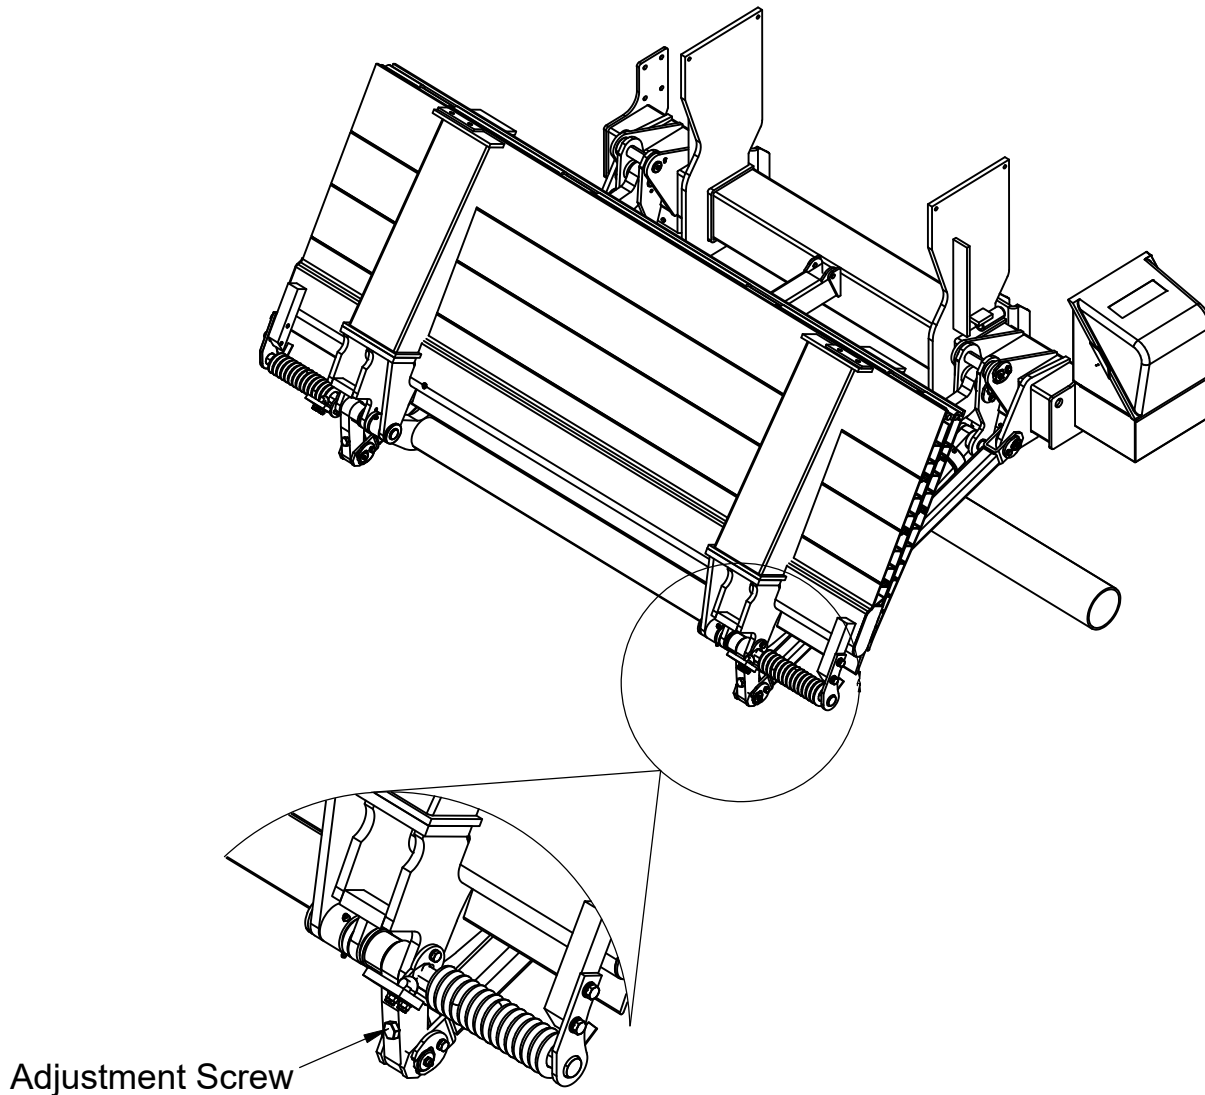

Figure 8: Platform Adjustment Screw location.
- Step 1. Position the liftgate so that the lift arms are touching the ground, but the platform is still folded (Figure 8).